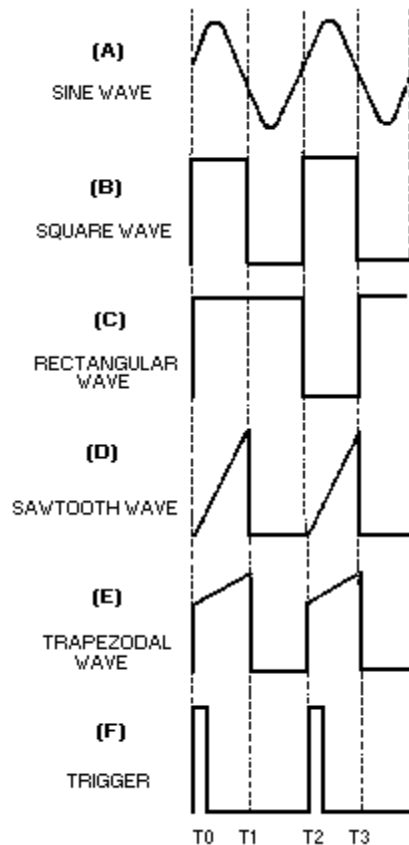
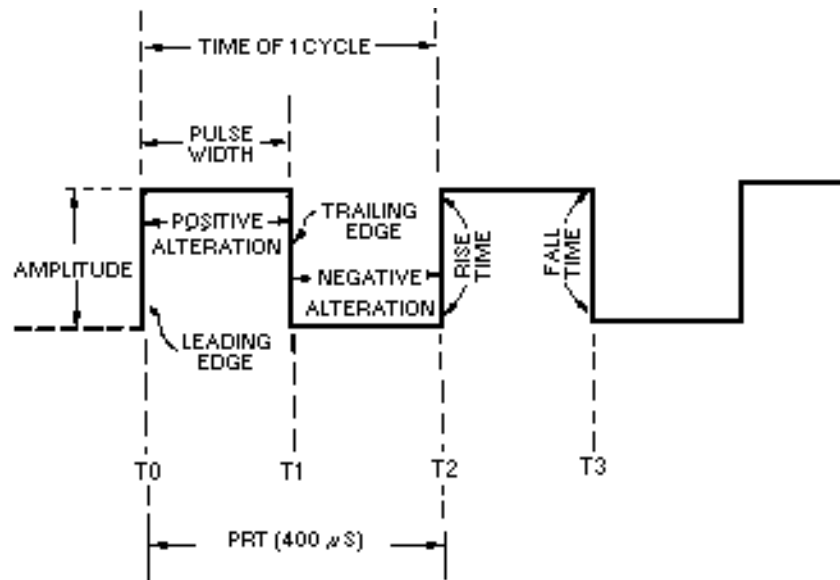

Figure 3-1.—Periodic waveforms.
Figure 3-2.—Square wave.
Each completed pattern of a periodic waveform is called a CYCLE, as shown by the SINE WAVE in figure 3-1, view (A). Sine waves were presented in NEETS, Module 2, *Alternating Current and Transformers*, Chapter 1.
A SQUARE WAVE is shown in figure 3-1, view (B). As shown, it has two alternations of equal duration and a square presentation for each complete cycle. Figure 3-2 shows a breakdown of the square wave and is the figure you should view throughout the square wave discussion. The amplitude is measured vertically. The time for a complete cycle is measured between corresponding points on the wave (T0 to T2, or T1 to T3).
One alternation is called a PULSE. The time for one complete cycle is called the PULSE-REPETITION TIME (prt). The number of times in 1 second that the cycle repeats itself is called the PULSE-REPETITION FREQUENCY (prf) or PULSE-REPETITION RATE (prf). If each alternation in figure 3-2 is 200 microseconds (μs), the prt will be 400 microseconds, and the prf will be 2,500 hertz. The following examples are provided to illustrate the mathematical relationship between prf and prt:
A rectangular wave is similar to the square wave. The difference is that in the rectangular waveform, the two alternations of the waveform are of unequal time duration. Figure 3-1, view (C), shows that the negative alternation (pulse) is shorter (in time) than the positive alternation. The negative alternation could be represented as the longer of the two alternations. Either way, the appearance is that of a rectangle.
The SAWTOOTH waveform is shown in figure 3-1, view (D). A sawtooth wave resembles the teeth of a saw blade. There is a rapid vertical rise of voltage from T0 to T1, which is linear (straight). At T1 this voltage abruptly falls (essentially no time used) to its previous static value. The voltage remains at this value until T2 when it again has a linear rise. You can see this action in an oscilloscope where there are two voltage input locations, vertical and horizontal. If you apply a linear voltage to the vertical input, the electron beam will be forced to move in a vertical direction on the crt. A linear voltage applied to the horizontal input will cause the electron beam to move horizontally across the crt. The application of two linear voltages, one to the vertical input and one to the horizontal input at the same time, will cause the
A TRAPEZOIDAL wave looks like a sawtooth wave on top of a square or rectangular wave, as shown in figure 3-1, view (E). The leading edge of a trapezoidal wave is called the JUMP voltage. The next portion of the wave is the linear rise or SLOPE. The trailing edge is called the FALL or DECAY. A trapezoidal wave is used to furnish deflection current in the electromagnetic cathode ray tube and is found in television and radar display systems. Electromagnetic cathode ray tubes use coils for the deflection system, and a linear rise in current is required for an accurate horizontal display. The square or rectangular wave portion provides the jump voltage for a linear rise in current through the resistance of the coil. This will be explained further in a discussion of the trapezoidal sweep generator.
A trigger is a very narrow pulse, as shown in figure 3-1, view (F). Trigger pulses are normally used to turn other circuits on or off.